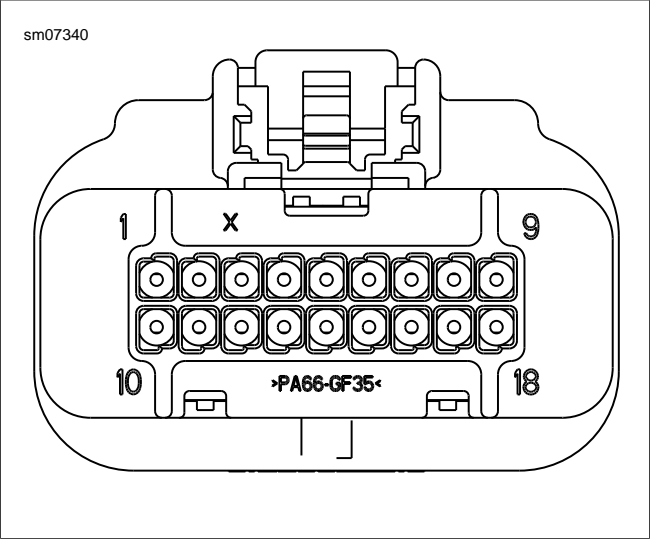

Figure A-68. Cavity Numbers
1. See Figure A-68. Locate the wire lead cavity by number.